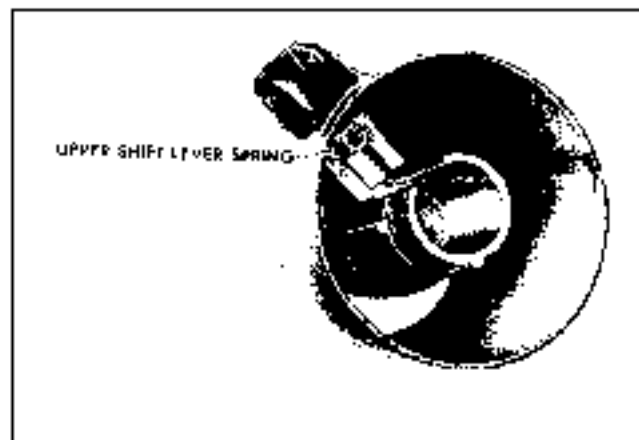

Fig. 9-8 Upper Shift Lever Spring
15. If shift bowl, shift lever spring or shift lever is to be replaced, remove shift bowl from steering column jacket. The shift lever or spring can be replaced by driving out the shift lever pivot pin, removing the shift lever. The shift lever spring can then be pryed out of shift bowl (Fig. 9-8). Do not reuse shift lever spring.
1. Press new upper shift lever spring into bowl pocket (Fig. 9-8), and install shift lever by driving pivot pin back into shift bowl if shift bowl was replaced.